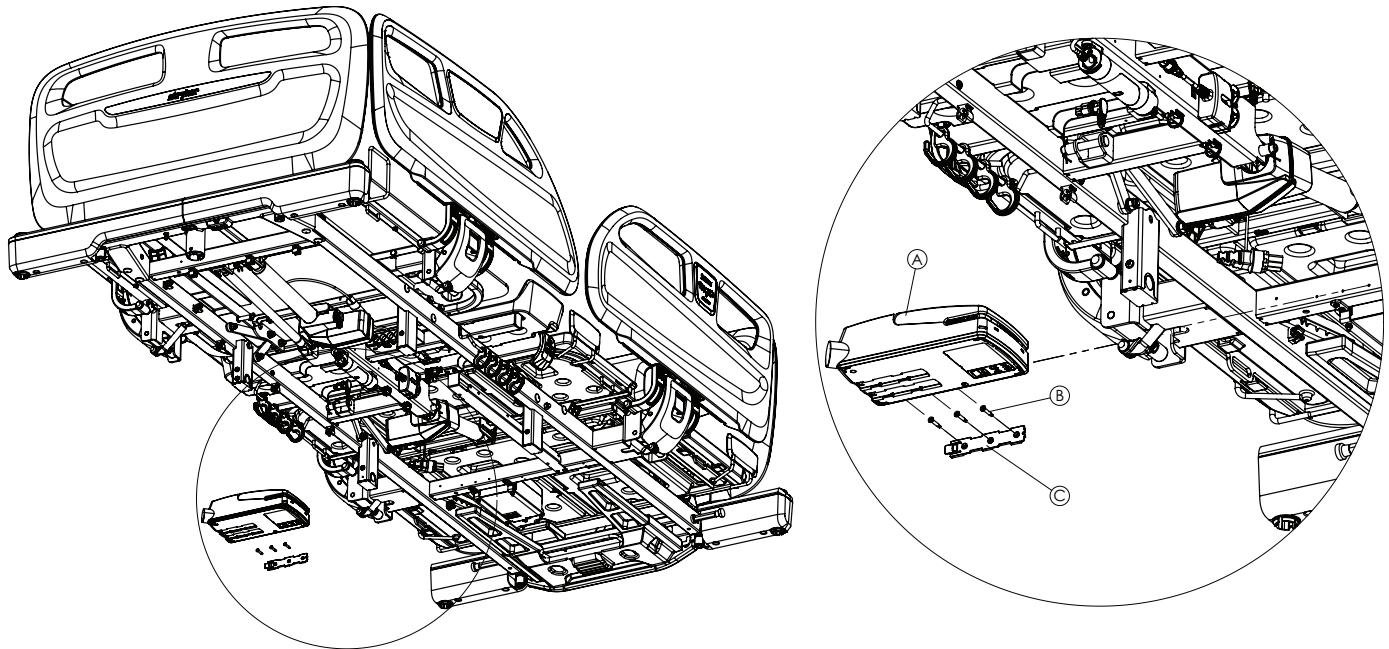

Figure 28 – Control box
9. Push down on the tab located on the connection plastic (C). Slide the control box to the patient right side. The control box comes off (Figure 28).
11. To replace the connection plastic (C), use a #2 Phillips screwdriver to remove the three screws (B) located on the plastic.